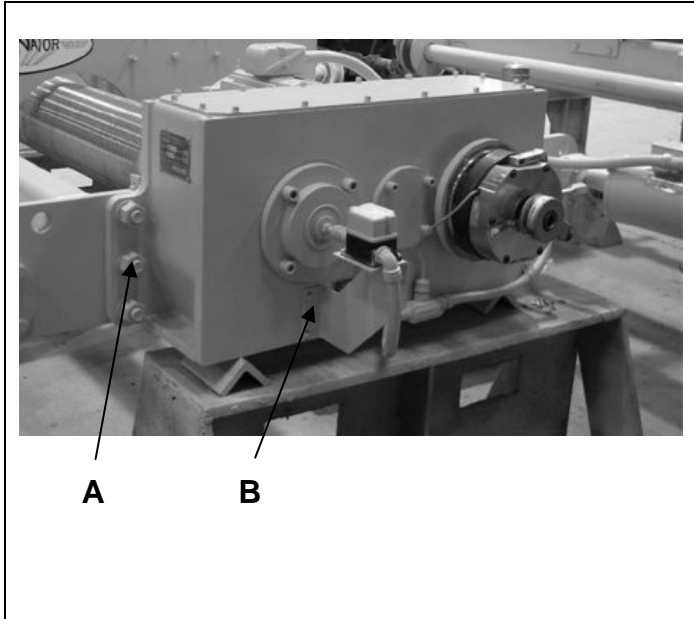

Fig. 3-3
- c) Check all mounting bolts for proper torque (Fig 3-3(A)).
- d) Check all external bolts, screw, accessories and other mounted equipment to ensure they have not loosened during shipment or handling (Fig 3-3(B)).